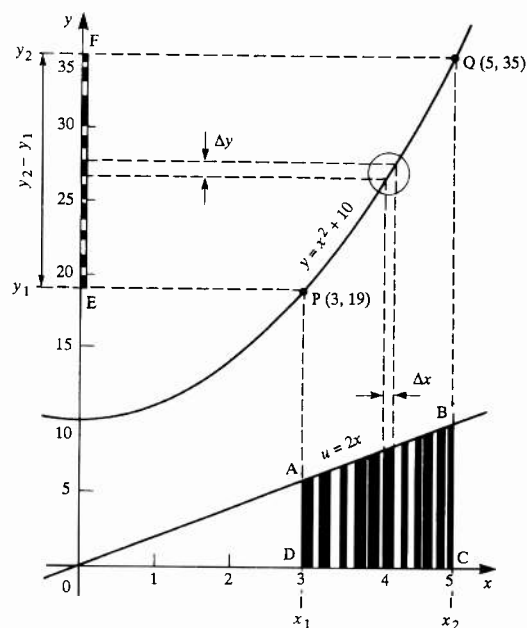
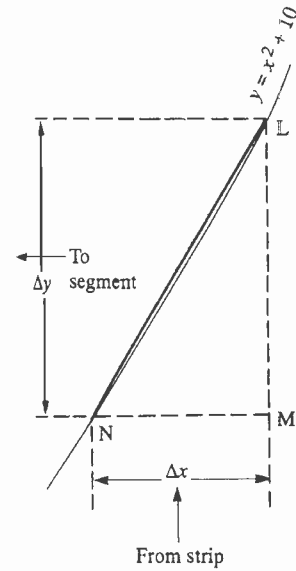

Fig. 1. The curve for $y = x^2 + 10$ (top) and the curve for its derivative (bottom).
Fig. 2. Enlargement of the circled part of Fig. 1.
Let's look at the relationship that exists between the curves of a function and of its derivative. Take as an example; $y = x^2 + 10$. This is the upper curve in Fig. 1. Below it is the curve for its derivative: $dy/dx = 2x$. The derivative is also a function and we call this function u : $dy/dx = u$. There is a region ABCD beneath the graph of u , from $x_1 = 3$ to $x_2 = 5$. The aim is to calculate the area A of this region. If the graph is a straight line, as it is here, the area is easily calculated by using the formula for a trapezium:
At this stage there are two equations, (1) for the total area ABCD and (2) for the total length EF. The final step is to link these together. Figure 2 shows how this is done. This is an enlargement of the part of the curve circled in Fig. 1.
Two approximations were made in the above discussion. First, the area of the strips was calculated as if they were rectangular, but they are not. Secondly, the gradient of the curve in Fig. 2 was calculated as if it is the same as the straight line LN, which it is not.
In words, the charge is the product of the current and the length of time for which it has been flowing. We can represent this as a graph (Fig. 3a) in which charge, being the product of current and time, is represented by the area beneath the curve. This idea can be extended to a varying current i since, for any short instant of time Δt , the accumulating charge Δq equals $i\Delta t$ (Fig. 3b); compare with the strips of Fig. 1.
In the earlier discussion of integration, the area under the curve (Fig. 1) was to be evaluated between x_1 and x_2 . Such an integral with limits is called a definite integral:
Note that c appears in both brackets and so cancels out. Consequently, when we are evaluating definite integrals, the constant of integration can be ignored. In Fig. 1 it can be seen that the value of c is 10, this being the y intercept of the curve $y = x^2 + 10$. However, it does not matter what it is. Giving c a different value merely shifts the parabola vertically up or down the page without affecting the length of EF.